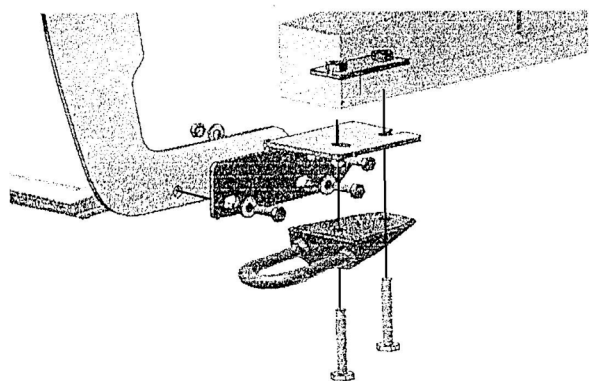

Figure 1.2 – Driver-Side Mount Bracket
1. Remove tow hooks from the front of the vehicles frame by removing the front bolt and loosening the rear bolt. Place the frame mount brackets on the underside of the frame , as shown in Figure 1.2, followed by the tow hooks. Replace the factory bolts and hand tighten.
2. Line up the 3 holes on the lower portion of the Front Bar with the 3 holes on the inside of each of the frame mount brackets (see Figure 1.2) and attach using (3) 7/16 x 1 ¼ hex bolts, 6-7/16 USS flat washers, and (3) 7/16 hex lock nuts for each side. Hand Tighten.
3. To attach the brace brackets, open the hood and remove (2) factory bolts located just behind the bumper, and in line with the front bar uprights.